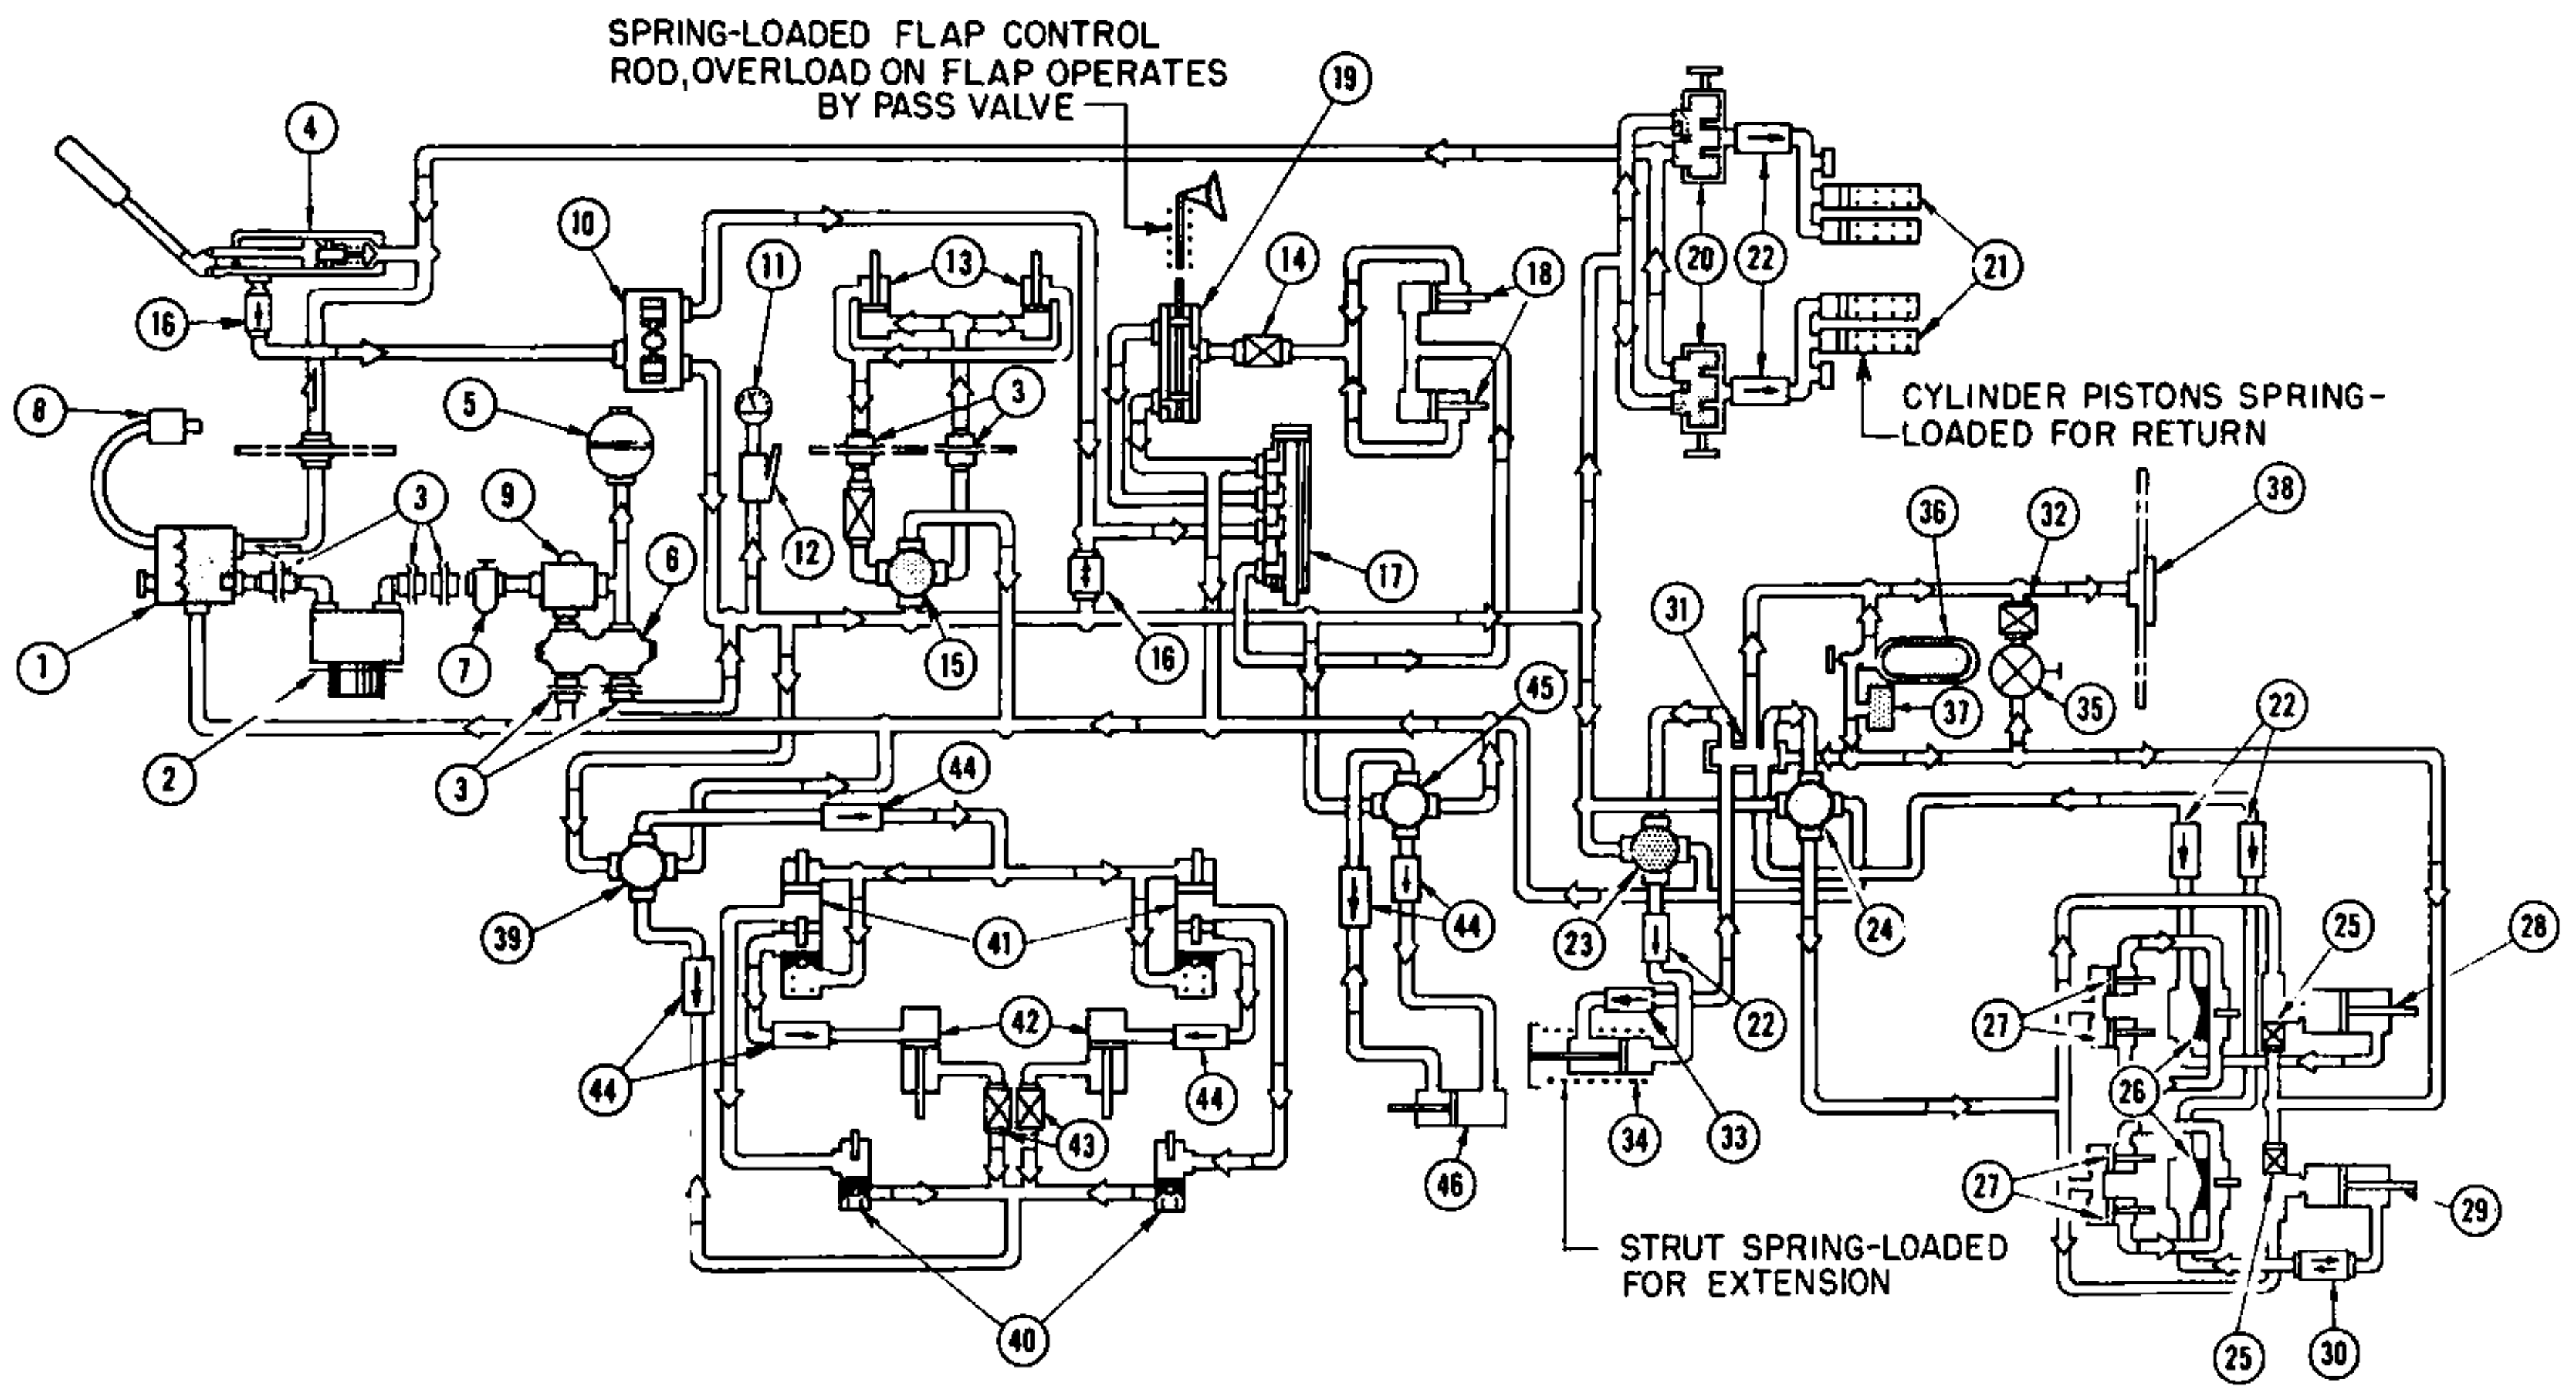

Figure 46 — Hydraulic System — Schematic Diagram
5. HYDRAULIC SYSTEM. (See figure 46.)
Nomenclature — Figure 46